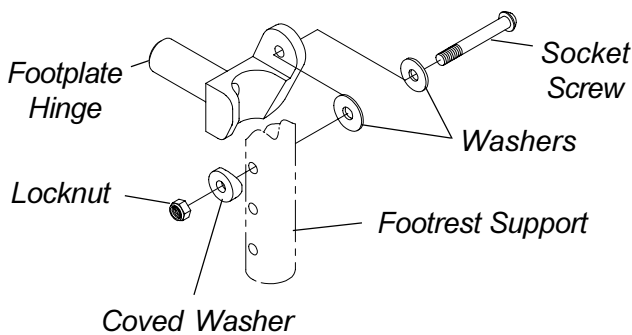

FIGURE 3 - INSTALLING ADJUSTABLE ANGLE FLIP-UP FOOTPLATE HINGE
INSTALLING ADJUSTABLE ANGLE FLIP-UP FOOTPLATE HINGE (FIGURE 3)
2. Position the hardware on the footrest support as shown in **FIGURE 3**.